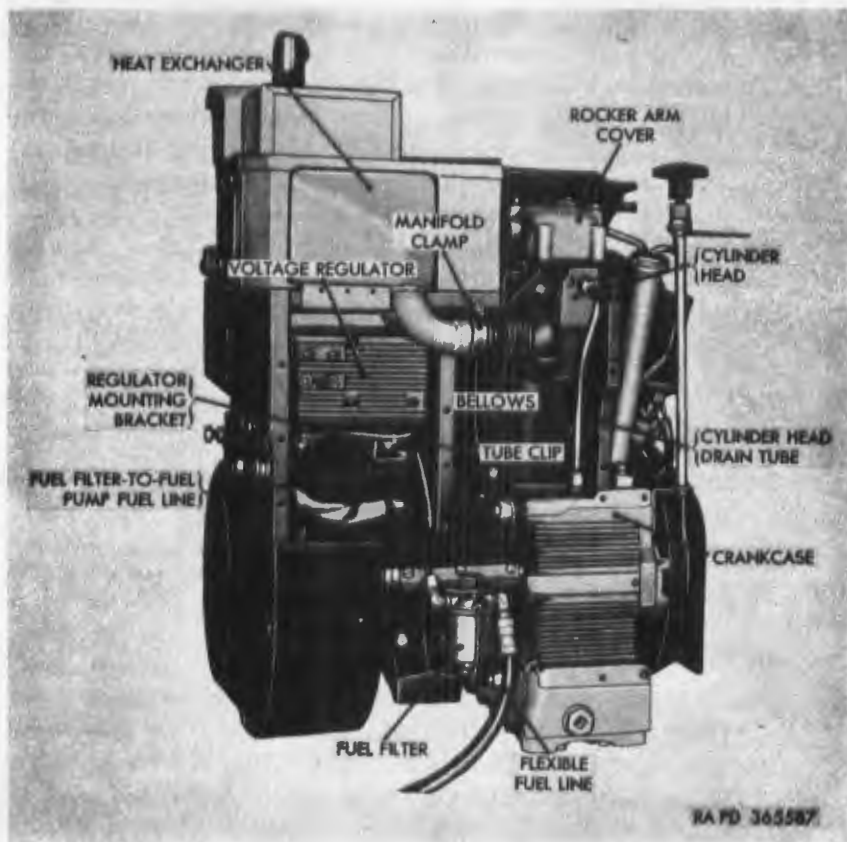

Figure 167. Auxiliary generator and engine—right panel removed.
a. General. The external oil lines for the auxiliary generator and engine consist of oil filter inlet and outlet tubes (fig. 158) which are connected to the oil filter and crankcase and a cylinder head drain tube (fig. 167) which is connected to the cylinder head and the crankcase.
- (1) *Removal.* Remove auxiliary generator and engine (par. 188a). Remove nine panhead screws with integral lockwashers and remove exhaust manifold cover (fig. 158). Remove two hex-head bolts and lockwashers securing cable support (fig. 158) to rocker arm cover and swing support to one side. Remove five panhead screws with integral lockwashers and lift off top panel (fig. 158). Remove 22 panhead screws with integral lockwashers securing right panel (fig. 158) to baffles and two panhead screws at front panel. Remove safety nut from manifold clamp (fig. 167) and slide clamp on tube of heat exchanger. Compress bel-
lows with screwdriver and rotate right panel until narrowest portion of panel can pass between heat exchanger tube and bellows and remove right panel. Unscrew connector nuts securing cylinder head drain tube (fig. 167) to fittings on cylinder head and crankcase and remove tube.
- (2) *Installation.* Position cylinder head drain tube (fig. 167) on cylinder head and crankcase fittings and tighten connector nuts at both ends securely. Compress bellows and insert narrowest portion of right panel (fig. 158) between bellows and tube of heat exchanger (fig. 167). Position right panel on baffles and secure with four $\frac{5}{16} \times \frac{1}{2}$ panhead screws with integral lockwashers installed at crankcase, eighteen $\frac{1}{4} \times \frac{1}{2}$ panhead screws with integral lockwashers installed at baffles, and two $\frac{1}{4} \times \frac{1}{2}$ panhead screws with integral lockwashers at front panel. Slide manifold clamp (fig. 167) over heat exchanger tube and bellows, install safety nut on clamp screw, and tighten
- (2) *Late engines.* The auxiliary generator and engine fuel lines on engines installed in vehicles with Ordnance serial No. 867 and up, consists of a fuel shutoff valve to electric fuel pump fuel line (fig. 161), flexible fuel line (fig. 161), fuel filter to fuel pump fuel line (fig. 167), and the fuel pump-to-carburetor fuel line (W, fig. 160). Fuel is drawn directly from the fuel shutoff valve by the electric fuel pump (fig. 161) and then pumped into the auxiliary generator and engine fuel system.
- (1) *Removal.* Turn fuel shutoff valve control lever (fig. 9) to the ALL OFF position. Remove fuel shutoff valve to electric fuel pump fuel line (fig. 161) by removing bulkhead door (par. 243a) and loosening connector nuts securing fuel line to shutoff valve and fuel pump. To remove the remaining fuel lines remove the auxiliary generator and engine (par. 188a). Unscrew connector nut at fuel filter and remove flexible fuel line (fig. 158). Remove nine panhead screws with integral lockwashers and remove exhaust manifold cover (fig. 158). Remove two hex-head bolts and lockwashers securing cable support (fig. 158) to rocker arm cover and swing support to one side. Remove five panhead screws with integral lockwashers and lift off top panel (fig. 158). Remove 22 panhead screws with integral lockwashers securing right panel (fig. 158) to baffles and 2 panhead screws securing right panel to front panel. Remove safety nut from manifold clamp (fig. 167) and slide clamp on tube of heat exchanger. Compress bellows with screwdriver and rotate right panel until narrowest portion of panel can pass between heat exchanger tube and bellows and remove right panel. Remove two panhead screws with integral lockwashers securing choke control lever assembly
(fig. 159) to carburetor guard and remove lever assembly. Remove 18 panhead screws with integral lockwashers securing upper left panel (fig. 159) and remove panel. Unscrew connector nuts at both ends of fuel filter to fuel pump fuel line (R, fig. 160 and fig. 167). Remove hex-head bolt and lockwashers securing tube and tube clip to voltage regulator bracket. Press out grommet from opening in panel and remove fuel line. Remove fuel pump to carburetor fuel line (W, fig. 160) by unscrewing connector nuts at both ends.
- (2) *Installation.* Before installing any fuel line, coat threaded fittings with gasket cement to prevent possible leakage. Position fuel pump to carburetor fuel line (W, fig. 160) and tighten connector nuts at each end. Be sure that grommet is properly positioned around tube and in panel. Insert fuel filter end of fuel filter-to-fuel pump fuel line (R, fig. 160 and fig. 167) through opening in panel and seat grommet in panel. Position line and tighten connector nuts at both ends. Place tube clip beneath voltage regulator mounting bracket (fig. 167) and secure bracket and clip with $\frac{5}{16} \times \frac{9}{16}$ hex-head bolt and $\frac{5}{16}$ -inch lockwasher. Position upper left panel (fig. 159) and secure with eighteen $\frac{1}{4} \times \frac{1}{2}$ panhead screws with integral lockwashers. Position choke control lever assembly (fig. 159) on carburetor guard and secure with two $\frac{1}{4} \times \frac{1}{2}$ panhead screws with integral lockwashers. Compress bellows (fig. 167) and insert narrowest portion of right panel (fig. 158) between bellows and tube of heat exchanger. Position right panel on baffles and secure with four $\frac{5}{16} \times \frac{1}{2}$ panhead screws with integral lockwashers installed at crankcase, eighteen $\frac{1}{4} \times \frac{1}{2}$ panhead screws with integral lockwashers installed at baffles, and two $\frac{1}{4} \times \frac{1}{2}$ panhead screws with integral lockwashers installed at front panel. Slide manifold clamp (fig. 167) over heat exchanger tube and bellows, install safety nut on clamp screw, and tighten clamp securely. Position top panel (fig. 158) over cylinder head and secure with five $\frac{1}{4} \times \frac{1}{2}$ panhead screws with integral lockwashers. Install exhaust manifold cover (fig. 158) and secure with nine $\frac{1}{4} \times \frac{1}{2}$ panhead screws with integral lockwashers. Position cable support (fig. 158) on rocker arm cover and secure with two $\frac{5}{16} \times 2\frac{3}{4}$ hex-head bolts and $\frac{5}{16}$ -inch lockwashers. Install auxiliary generator and engine (par. 188b). Position fuel shutoff valve to electric fuel pump fuel line (fig. 161) and secure by tightening connector nuts. Install bulkhead door (par. 243b).